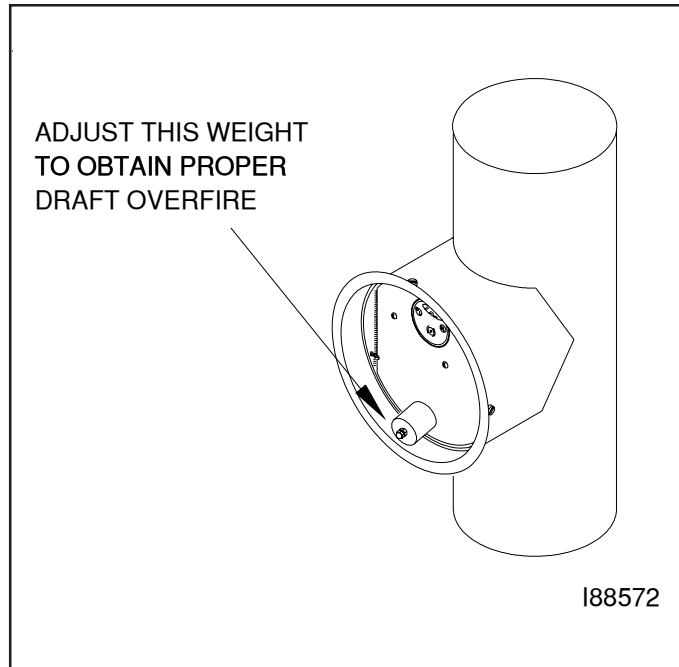

Figure 8B - Adjustment of Barometric Damper
4. As shown in Figure 8B, adjust the weight on the flapper to obtain a consistent -.02 w.c. draft overfire. Turn the weight **COUNTERCLOCKWISE** to increase draft (i.e. draft increases as the flapper closes). Turn the weight **CLOCKWISE** to decrease draft (i.e. draft decreases as the flapper opens).